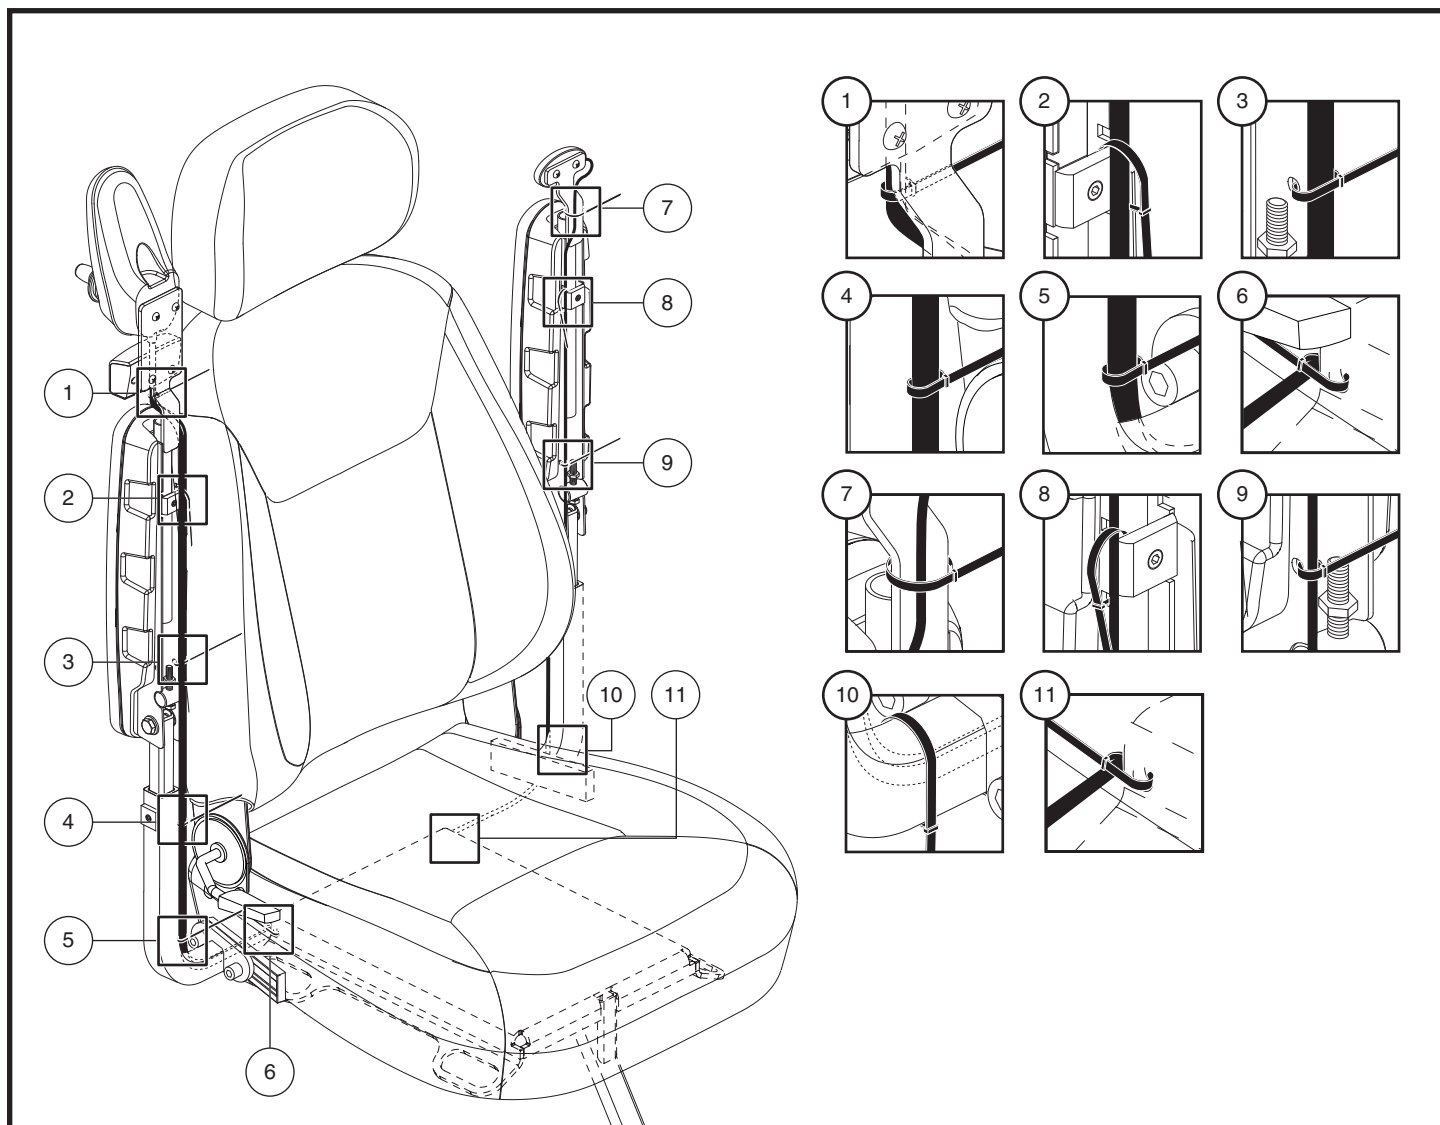

Figure 10. Controller Harness Routing
17. Secure the harnesses on the armrest with the supplied wire-ties as shown in **figure 10**.
19. Secure the harnesses along the armrest receiver and seat plate with supplied wire-ties as shown in **figure 10**.
WARNING! Ensure that all harnesses are properly routed as shown in figure 10. Improper routing can cause damage to the light switch, controller or other electrical components.
2. For locations 1 through 11, tighten the wire-ties into place according to the proper harness routing as shown in **figure 10**.
9. Route the controller harness along the seat frame and secure with wire ties. **See figure 10.**